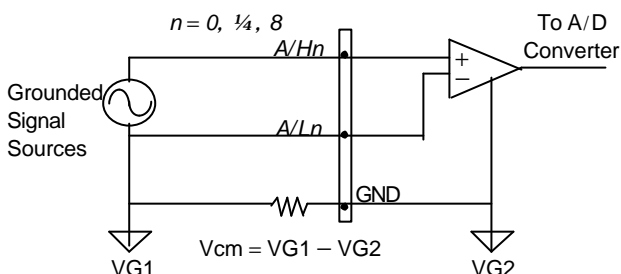

Figure 8. Grounded source and differential input
Differential input (DI) mode means the voltage of the signal to be measured is a pair of signals, for example, AI3L and AI3H is a differential pair. The AD circuit measures the voltage difference between the differential pair. Common mode noise can be reduced under this mode. Note that the differential signal pair must have a common ground. Figure 8 illustrates a